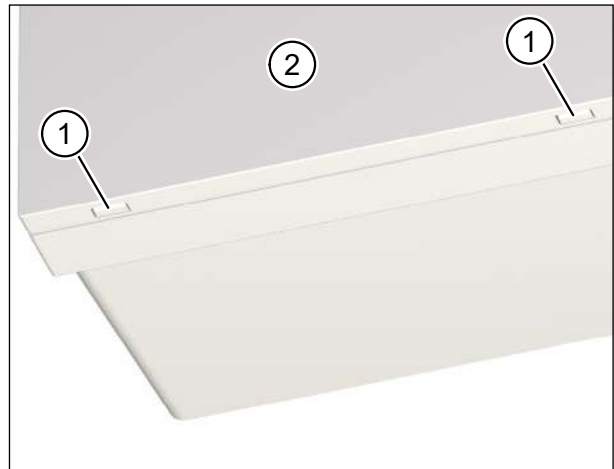

Fig. 20: Remove unit cover from the ventilation unit and clean
- ▶ Using both thumbs, press the two latches (item 1 in Fig. 20) on the bottom of the ventilation unit. The unit cover (item 2 in Fig. 20) will come away.